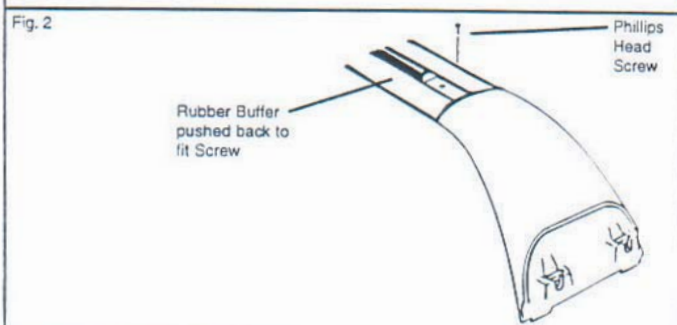

Fig. 2
- 2 Push the rubber Buffer Strip back about 20mm until the screw hole appears. Fit Phillips Head Screw and tighten. Replace Buffer Strip (Fig. 2).